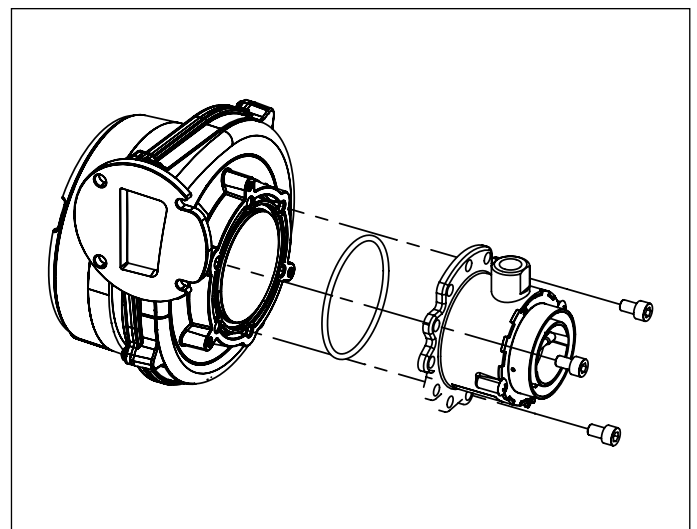

Fig. 31 Mixer
- Loosen the three socket head screws, and remove the mixer (see Fig. 31 Mixer).